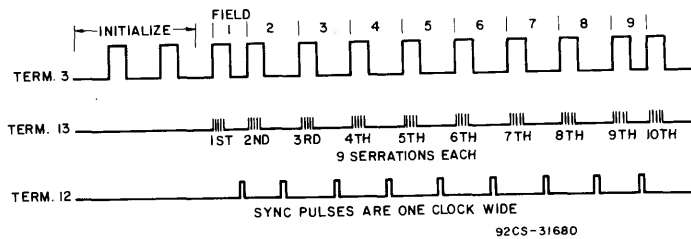

Fig. 9 - Out-of-sync detector test for confidence of coincidence field count at terminal 3 (applies to test referenced to Note 23).
- This test checks the operation of the out-of-sync detector by applying out-of-phase sync pulses to terminal 12. The CA3157 will count eight fields before resetting to the sync pulse (See Fig. 9)